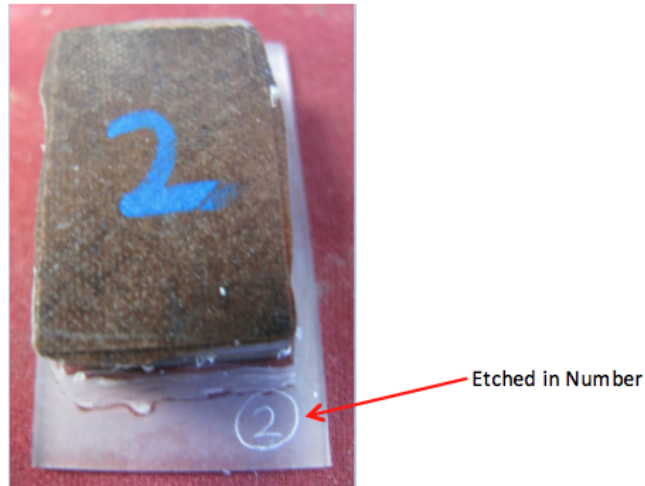

Figure 2
2. Use the diamond tipped pen to etch the sample number and orientation arrow if applies, onto the bottom right corner of the slide (Fig.2).